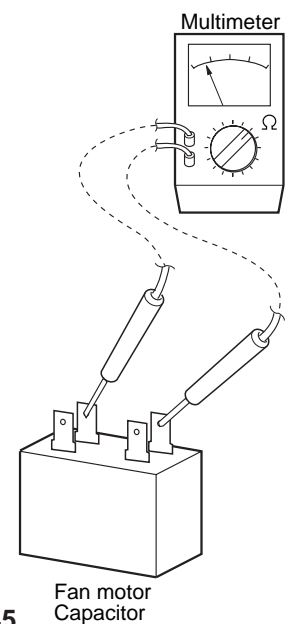

Fig. 45
- ⑤ **Fan motor capacitor Both in indoor and outdoor unit**
- Remove the lead wires from the capacitor terminals, and then place a probe on the capacitor terminals as shown in **Fig. 45**. Observe the deflection of the pointer, setting the resistance measuring range of the multimeter to the maximum value.